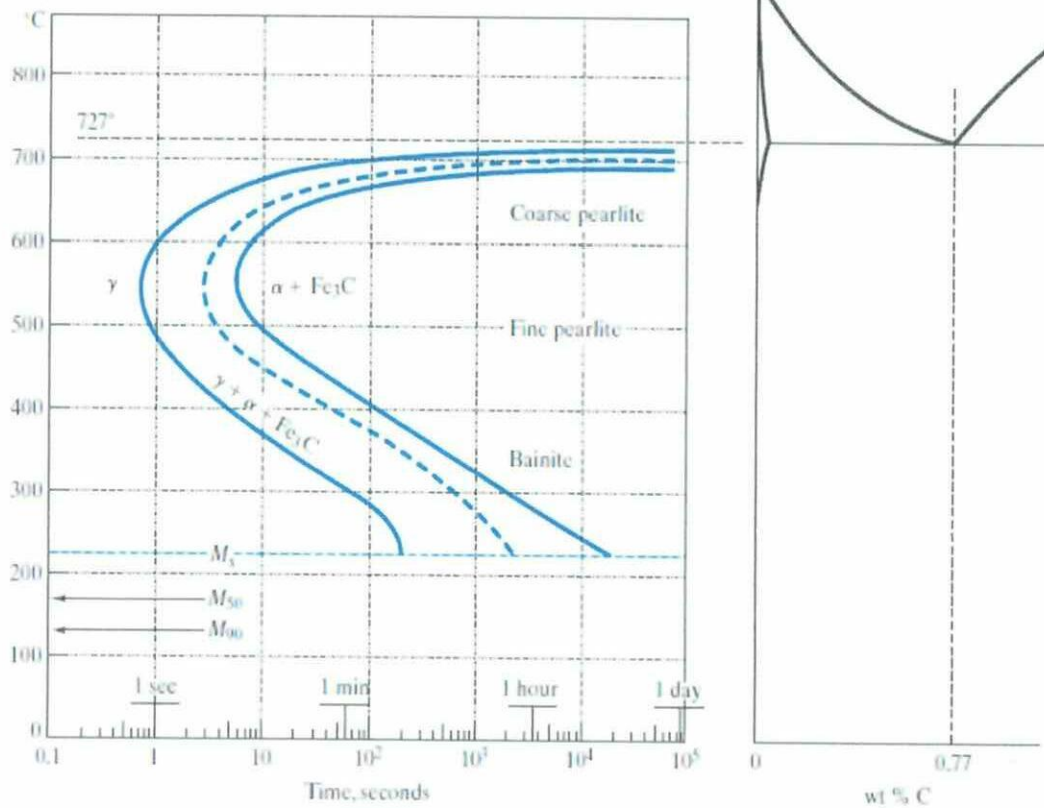

Figure Q3 (c)
- (b) Sketch the possible microstructural development at **FOUR (4)** different stages that occurs for Fe-Fe3C at 0.5 wt% C cooling from 1200 °C to 450 °C using the aid of the Fe-Fe3C phase diagram. (8 marks)
- (c) Based on the time-temperature-transformation (TTT) diagram of 0.77 wt% C steel shown in **Figure Q3 (c)**, analyze and calculate the following:
- (b) There are different types of plastics and each one are made to suit different applications. Explain **THREE (3)** types of plastic, their properties and their applications. (12 marks)